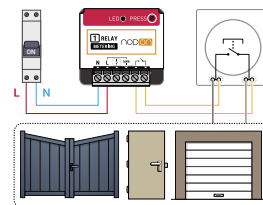

Figure 1
- Wired the Zigbee Multifunction Relay Switch with metering, following the diagram figure 1.